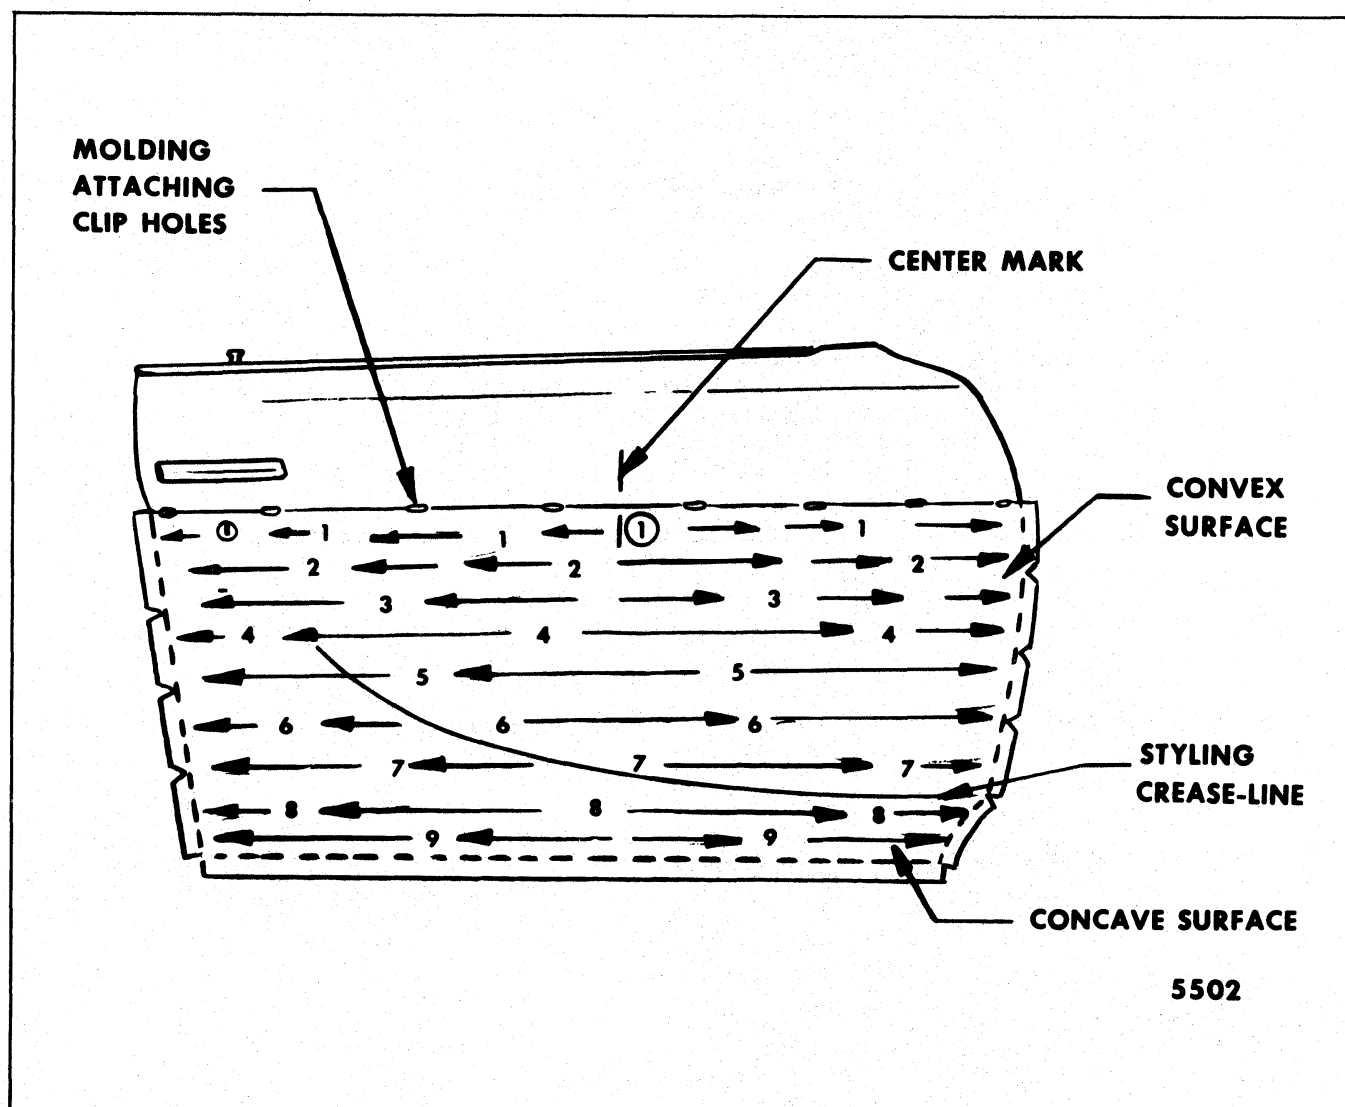

Fig. 1-8-Transfer Installation Sequence (Right Front Door Shown)
A proper squeegee sequence is of utmost importance. Start at top center of transfer. Progress to right and left from center to establish alignment across top. Then squeegee downward from this position in small increments all the way across transfer as described in Figure 1-8 and in this procedure.
7. Position transfer to repair panel, centering transfer for proper vertical and lateral alignment. Center-mark transfer and panel accordingly (Fig 1-8).
12. With one hand, lift the unsecured lower area of transfer from panel. If transfer sticks prematurely, break bond with fast, firm pull. Position transfer close to panel at center and squeegee "downward" for short distance (approximately two inches). Then squeegee laterally over same spot. Repeat this operation working toward each end of panel. Continue bonding of transfer with firm, overlapping strokes. Example of squeegee progression is shown in Figure 1-8.
14. Work progressively downward in small increments completely across transfer as shown in Figure 1-8.